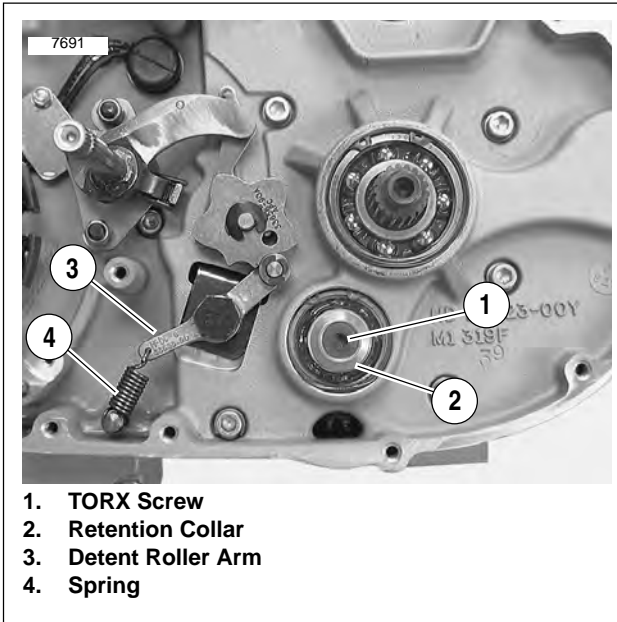

Figure 6-62. Countershaft Retainer
8. See Figure 6-62. Position retention collar next to end of counter shaft with beveled side facing outward.
- b. Insert screw (1) through retention collar (2) and thread into end of shaft.
- c. Place transmission in gear, and tighten TORX screw (1) to 13-17 ft-lbs (18-23 Nm) torque.